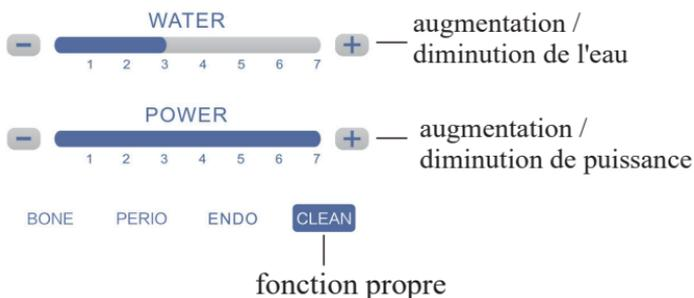

Figure 11
7.2.3 Fonction CLEAN (figure 11)